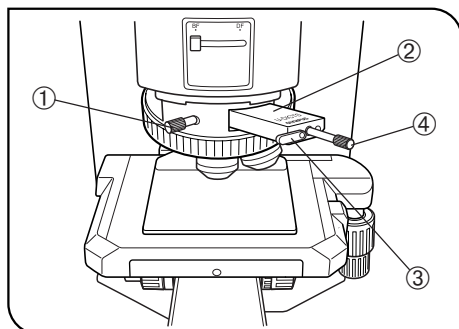

Fig. 31
2 Setting the DIC Slider (Fig. 31)
3 Observation Method (Fig. 31)
1. Adjust the background contrast by turning the prism movement knob ④ on the DIC slider as described below. (Fig. 31)
1. Loosen the mounting knob ① on the front of the DIC revolving nose-piece, gently pull out the DIC slider ② until it clicks, then clamp by tightening the mounting knob (Fig. 31).